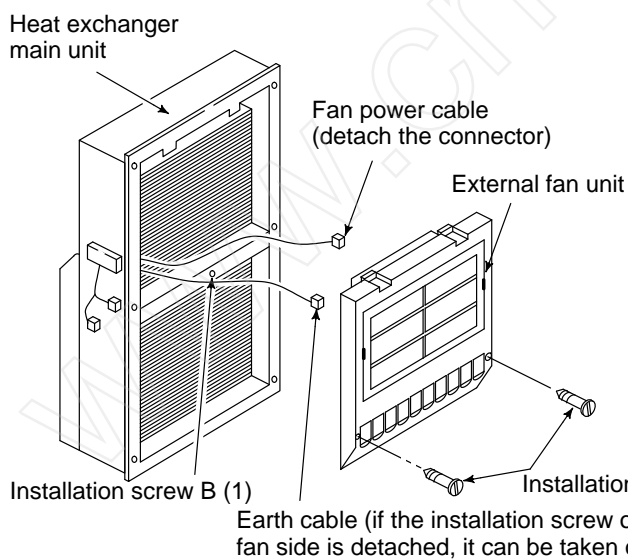

Fig. 1 Take out the external fan unit from the heat exchanger main unit
- 1 Take out the external fan unit from the heat exchanger main unit. (Fig. 1)